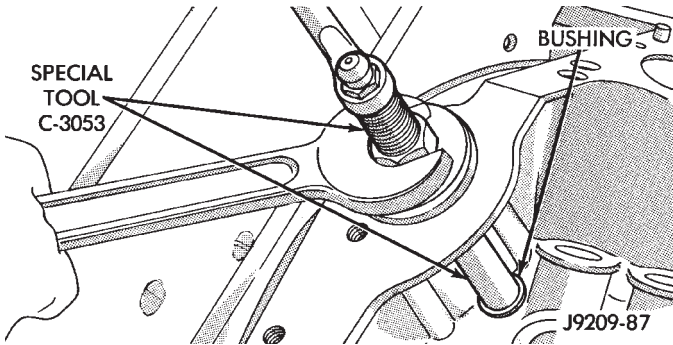

Fig. 35 Burnishing Distributor Driveshaft Bushing
(3) As the burnisher is pulled through the bushing, the bushing is expanded tight in the block and burnished to correct size (Fig. 35). **DO NOT ream this bushing.**